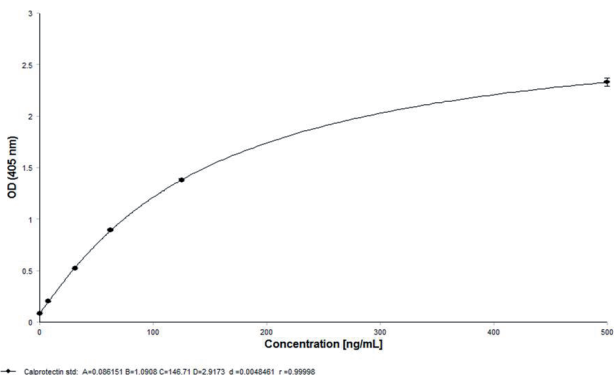

Figure 1: A representative calibration curve using 4-parameter curve fit.
- As a guide, the OD value of Calibrator 5 (500 ng/mL) should be  $\geq 1.6$  and the OD value of Blank (0 ng/mL) should be  $\leq 0.25$ . A representative calibration curve is shown in figure 1.
2. Plot the value of blank and each calibrator concentration (ng/mL) on the x axis against its mean OD value on the y axis to obtain a calibration curve. **A 4-parameter curve fit function is recommended** (see figure 1 below). If a logarithmic x axis is required, a value of 0.001 ng/mL must be used for standard A (0 ng/mL).